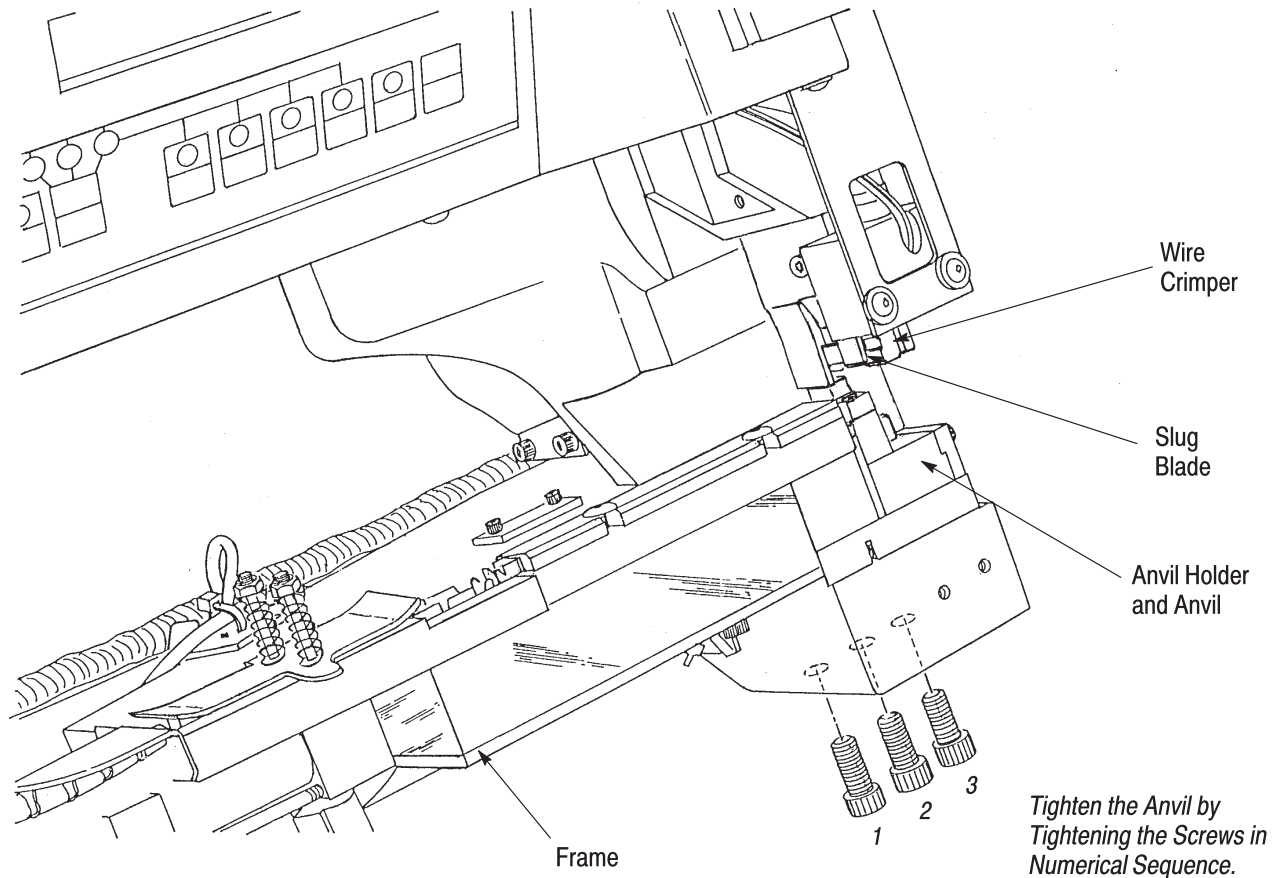

Figure 13
2. Remove the three screws securing the anvil holder to the frame. See Figure 13.